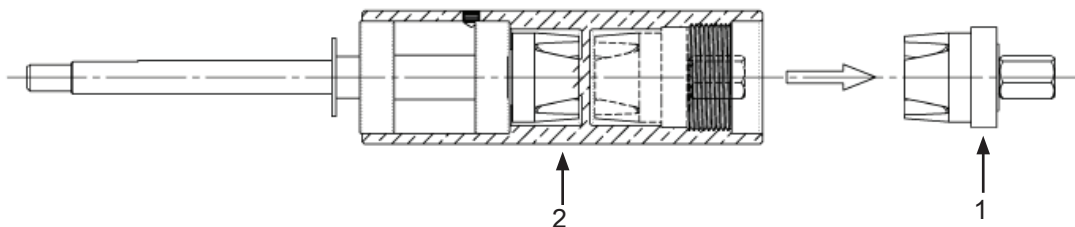

Figure 8 Bearing Assembly
Step 3. Pull the aft bearing assembly (1) from the back of the propeller bearing assembly (2) (it is only held in place by magnetic attraction). See Figure 8.